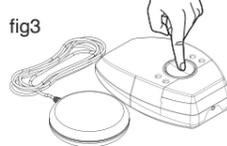

fig3
- Quickly press and release the button 5 times (fig 3).